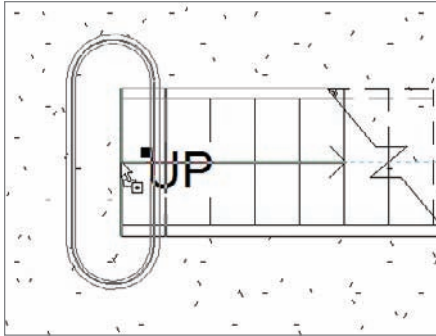

FIGURE 10.70 Placing the landing
5. Place the landing under the last tread at the point shown in Figure 10.70.